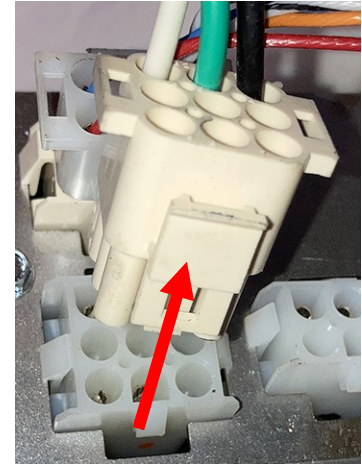

Fig 11A
12. Disconnect the plug (Figure 11A).